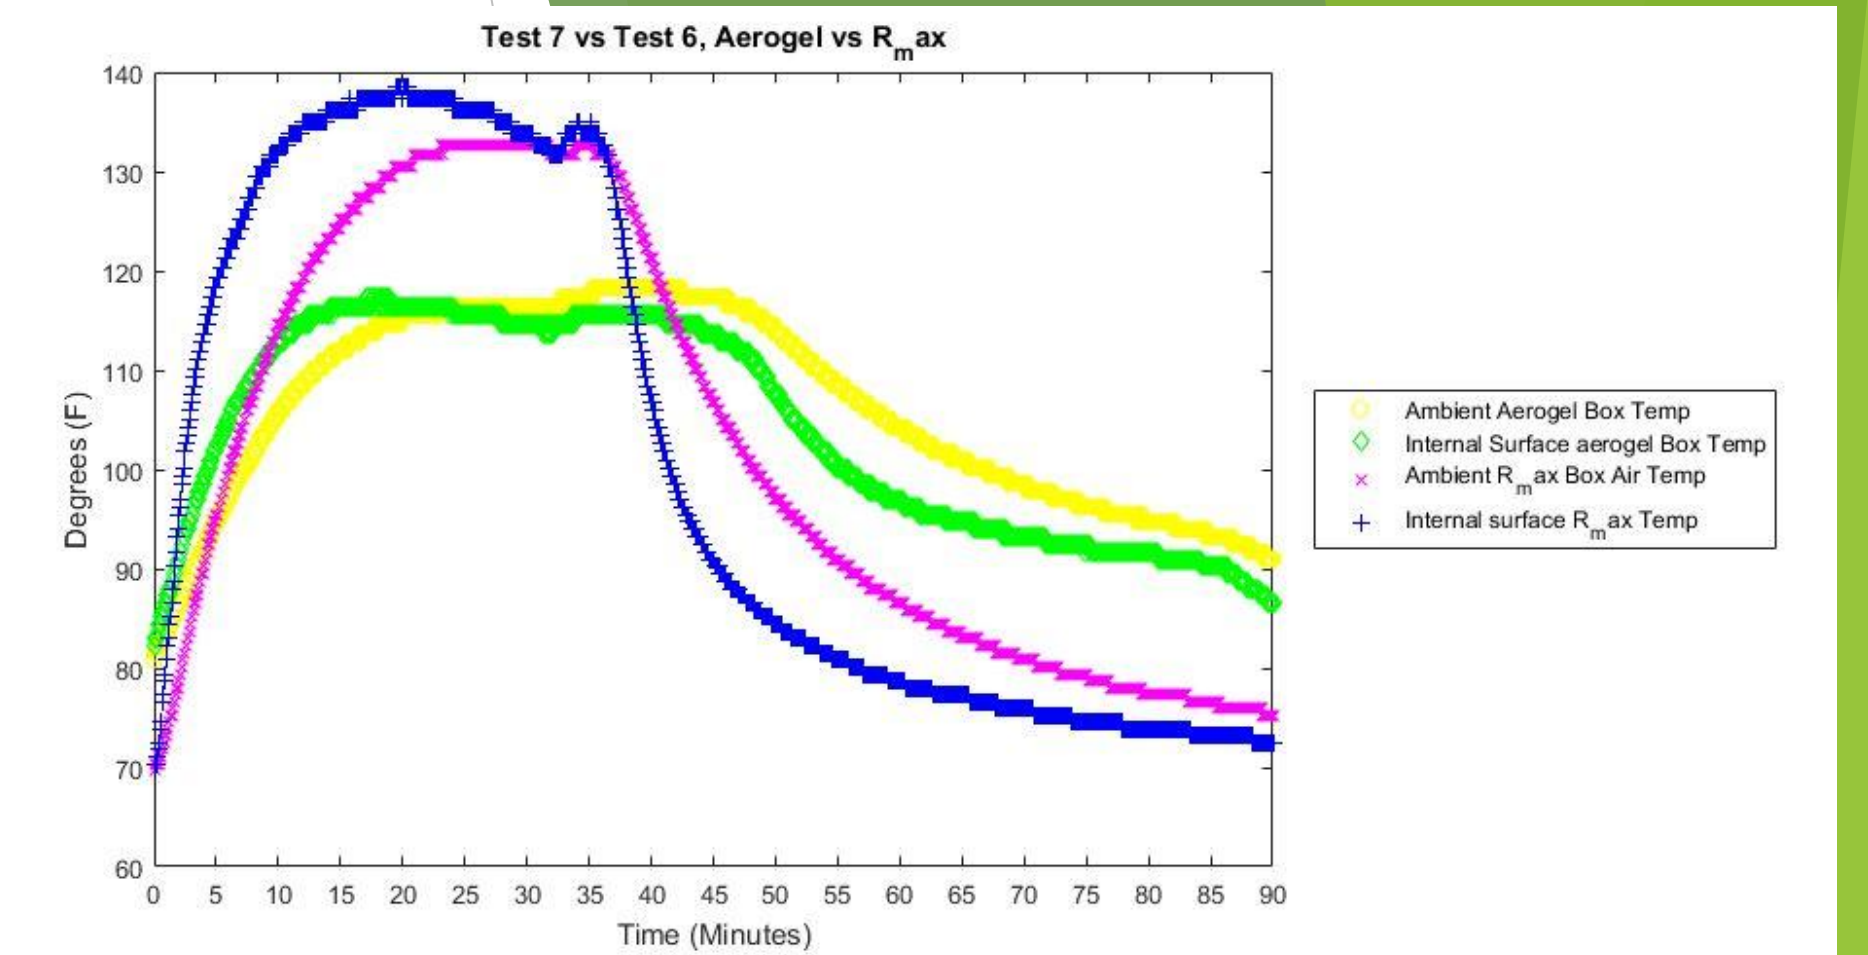

Figure 1
- Figure 1 depicts a comparison of the temperature profiles over time for aerogel and R_max.